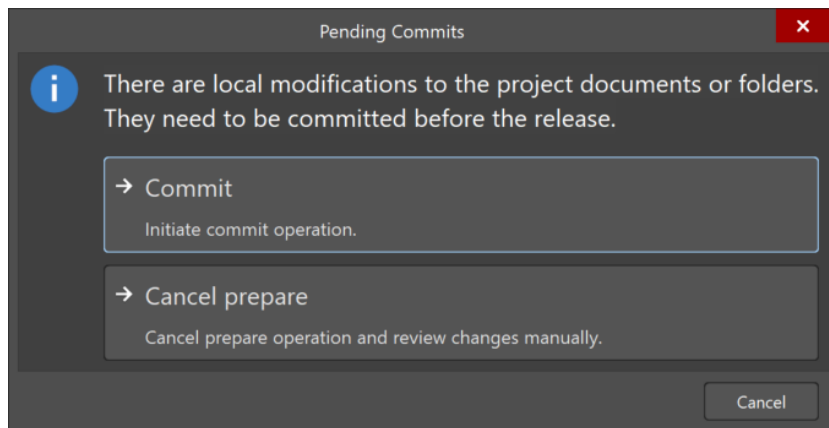

Figure 4. Reminder to commit modifications
13. If you missed to commit modifications you have done so far (**Save to Server**) the tool will show you the *Pending Commits* dialog, Figure 4. If you see the message, select **Commit** to proceed.